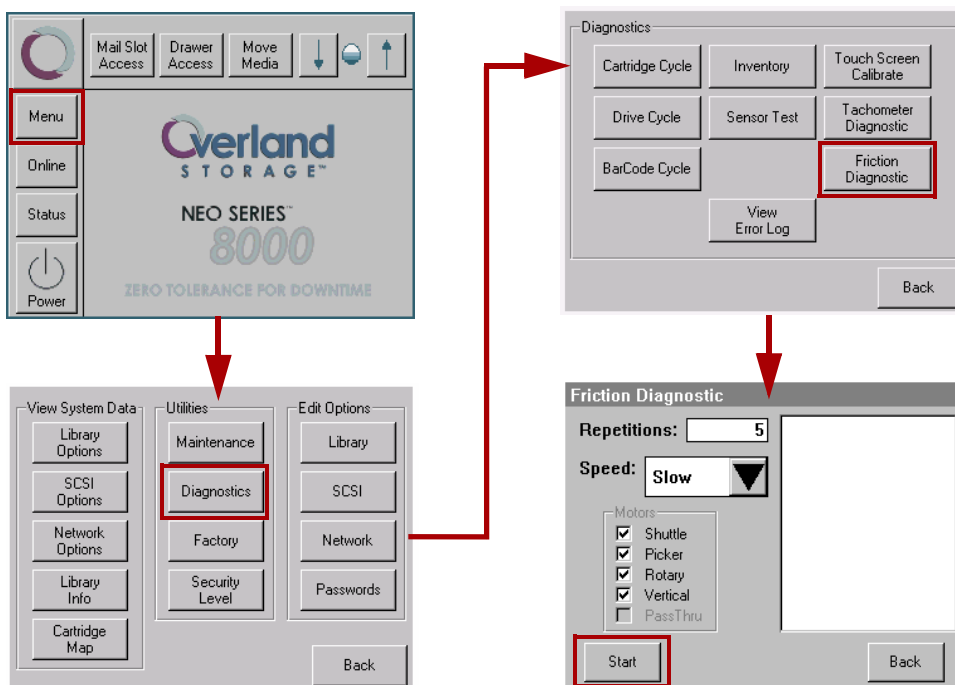

Figure 5-4: Starting the Cartridge Cycle Test
3. Select **Menu > Diagnostics > Friction Diagnostic > Start** (Figure 5-4).